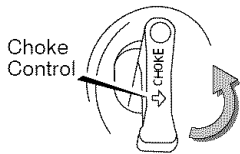

Figure 11
2. Move the choke control to the **START** position (see Figure 11).